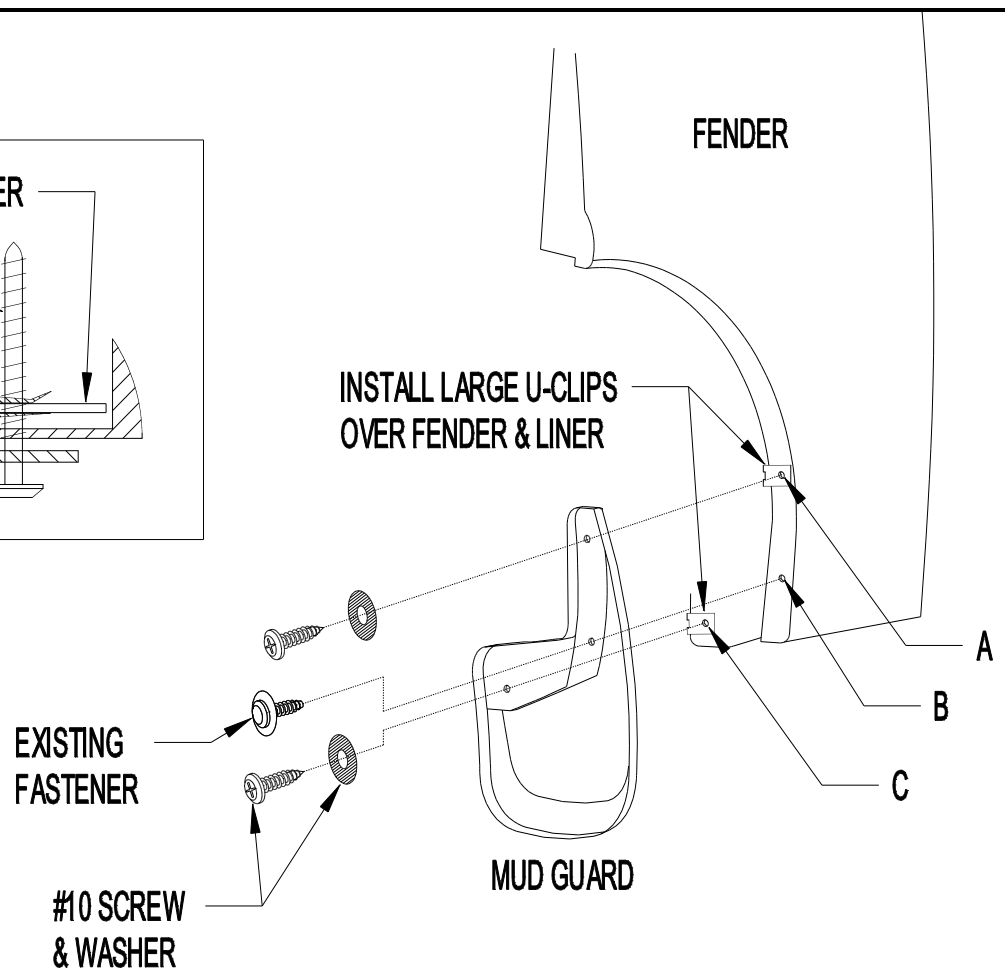

Figure 1
- #10 Screw (4)
- Washers (4)
- Large U-clips (4)
1. Remove existing fastener from location B (Figure 1).
4. Remove mud guard and install u-clips at locations A and C. Install u-clips over fender and fender liner and align drilled and u-clip holes (Figure 1 and 2).